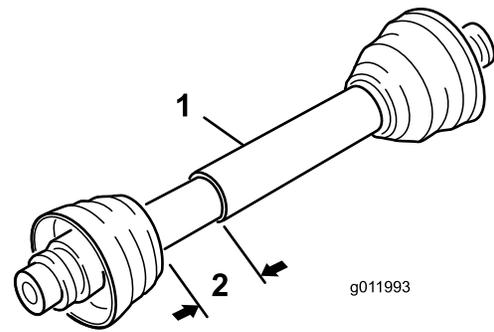

Figure 5
4. At the shortest length of the shaft, the 2 halves of the PTO shaft must have at least 37 mm (1-1/2 inches) of additional clearance to collapse (Figure 5).